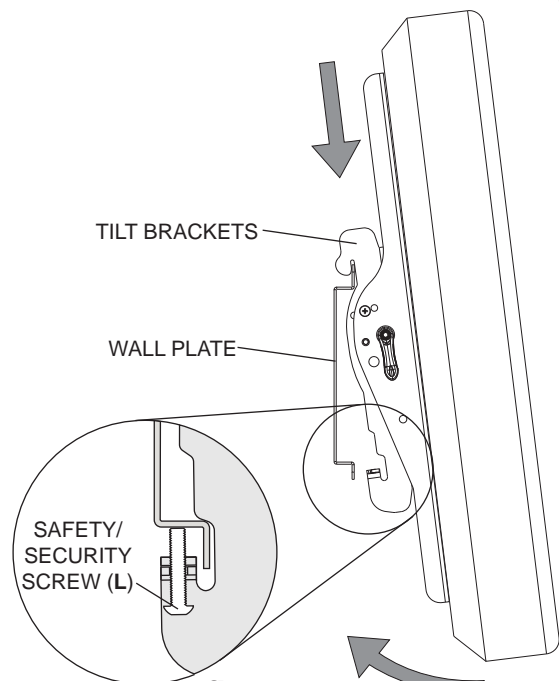

fig 3.3
Ratchet handle must be in the up or down position, or interference will occur while hooking tilt brackets to wall plate. Slowly hook tilt brackets onto wall plate and swing screen down. Using 4 mm security allen wrench (I) turn clockwise until screw fits firmly against wall plate to prevent screen from being removed as shown in figure 3.3.